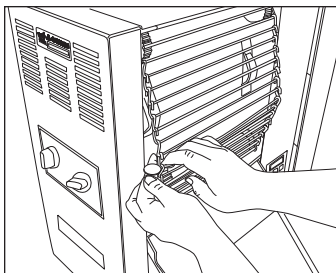

Figure 2. Heel Club (Front) side
5. Stand a U.S. Quarter coin ($15/16$ ”, or 2.5 cm) horizontally between the Conveyor Belt Chain and the frame (see Figure 2).